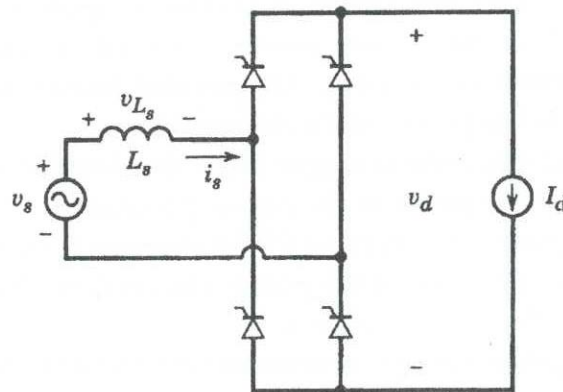

Figure Q1: Single-phase thyristor converter
- b) A single-phase thyristor converter is shown in Figure Q1. Since the dc side has a large inductive load it is represented by a constant dc current source I_d as shown in the figure. The ac source voltage $v_s = \sqrt{2}V_s \sin \omega t$. The delay angle of the converter is α . Assume that the $L_s=0$ and the thyristors in the circuit have ideal characteristics.
- v) Assume that the $L_s \neq 0$ in the thyristor converter shown in Figure Q1. For one cycle of ac source voltage, draw the v_d and i_s waveforms when the converter is in the rectifier mode of operation. Also, indicate which thyristors are 'on' in the each sector of the i_s waveform.